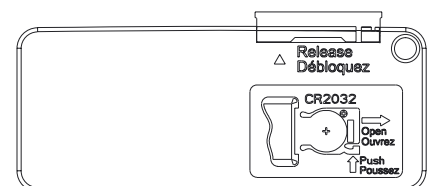

Fig. 1
2. Remove plastic tab from remote, and use to control the effect. (Fig.1)